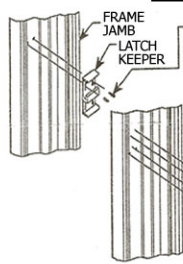

FIG. 2
Flip keeper over so that the hook is facing down (see FIG. 2) and then center bottom slots of keeper on holes that the shipping screws were removed from and install keeper with (2) #8 x 1 1/4" sheet metal screws into the same holes. Insure that the screws are installed completely through the frame tightened against the keeper.